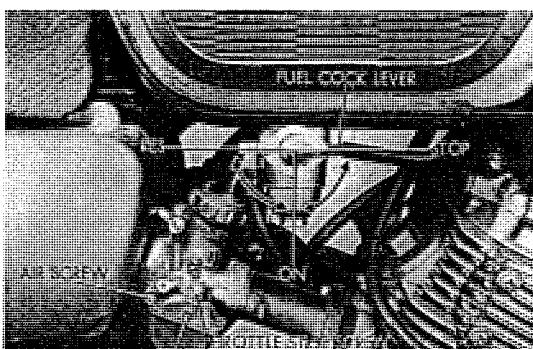

Fig. 6.18 ON and RES positions of fuel tank pet cock
- b. Remove the fuel line from the carburetor and examine the flow when the fuel pet cock is turned on. (Refer to Fig. 6.18)